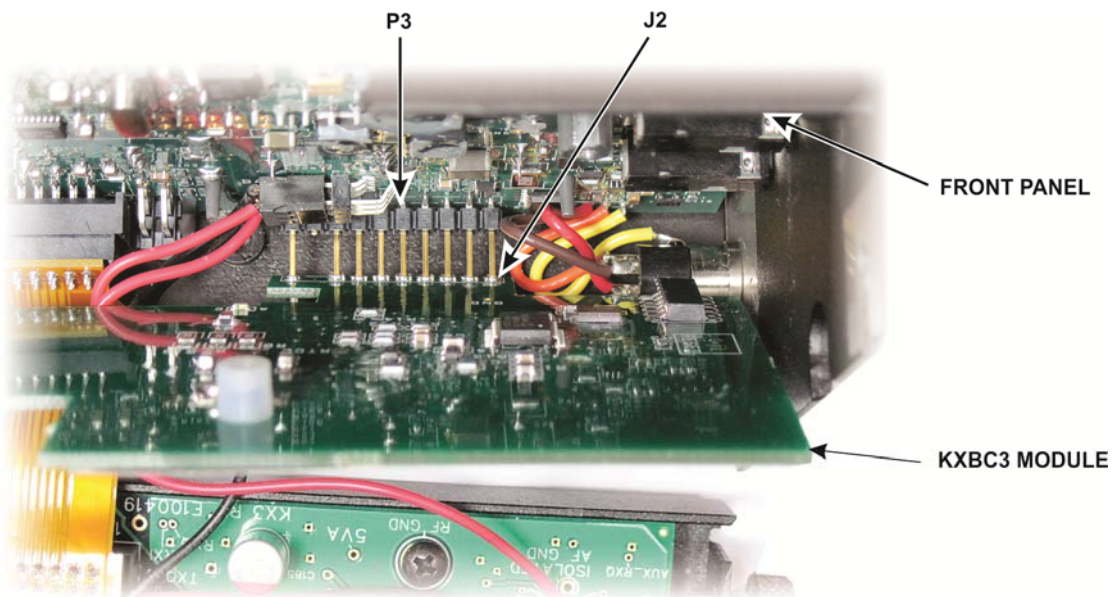

Figure 6. Positioning the KXBC3 Module on P3.
□ Hold the KXBC3 module so you can see that each pin on P3 is started into the corresponding opening in J2 on the module (see Figure 6). Hold the module against the pins while carefully tilting it parallel to the control panel board so the pins insert straight into J2, then press on the module to engage the pins. There is normally some resistance at the very beginning, which is why it is important to have the connectors properly aligned.